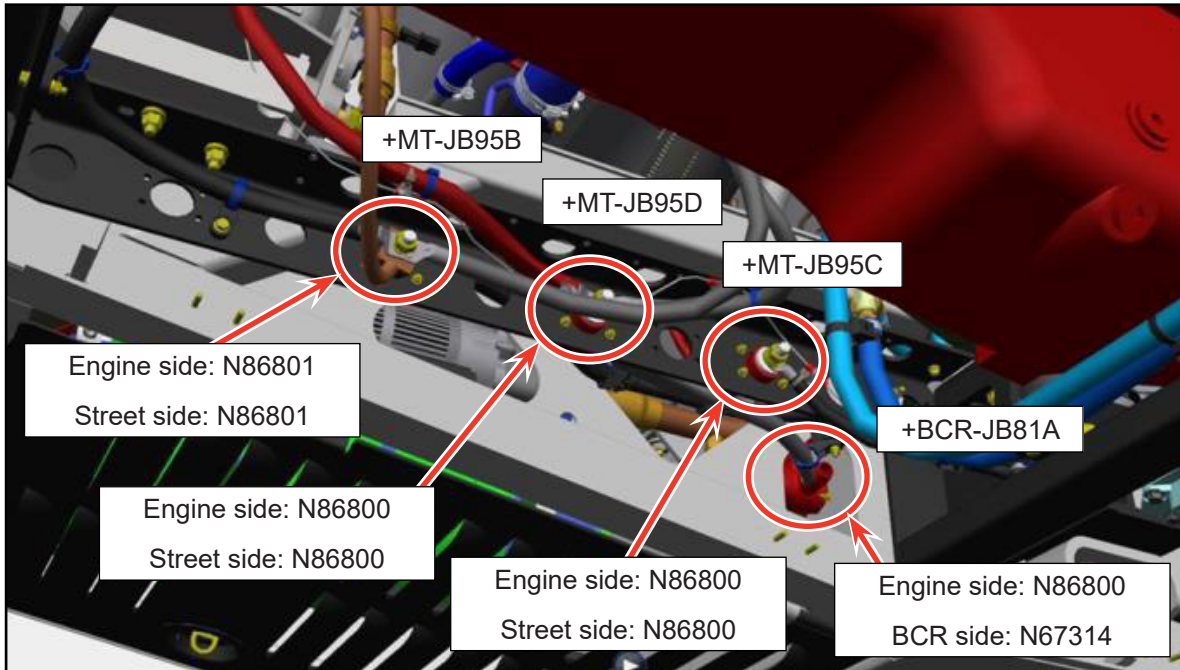

Figure 13 - Corrosion Preventative Products Application Requirements
- b. Vaporize/apply the NPCHM00023 cleaner or similar product (CRC Citrus Degreaser or QD Contact Cleaner) on the surfaces to be covered (see Figure 13), and with a dry cloth clean the surface to remove any unwanted particle and/or grease deposits. Allow the product to evaporate completely.
- 2.18. After the surface cleaning, corrosion preventative product MUST be applied on both sides of the junction block (see Figure 13).